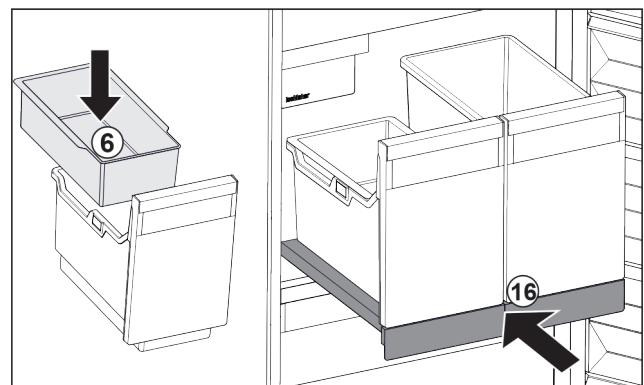

Fig. 91
- ▶ Insert hang-on tray *Fig. 91 (6)* for ice cubes.
- ▶ Slide in the pull-out board with container (IceTower). *Fig. 91 (16)*